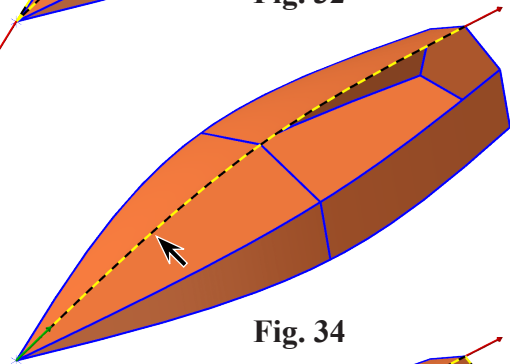

Fig. 34
Step 7. Click “keel” spline to select chain 1, **Fig. 34**.